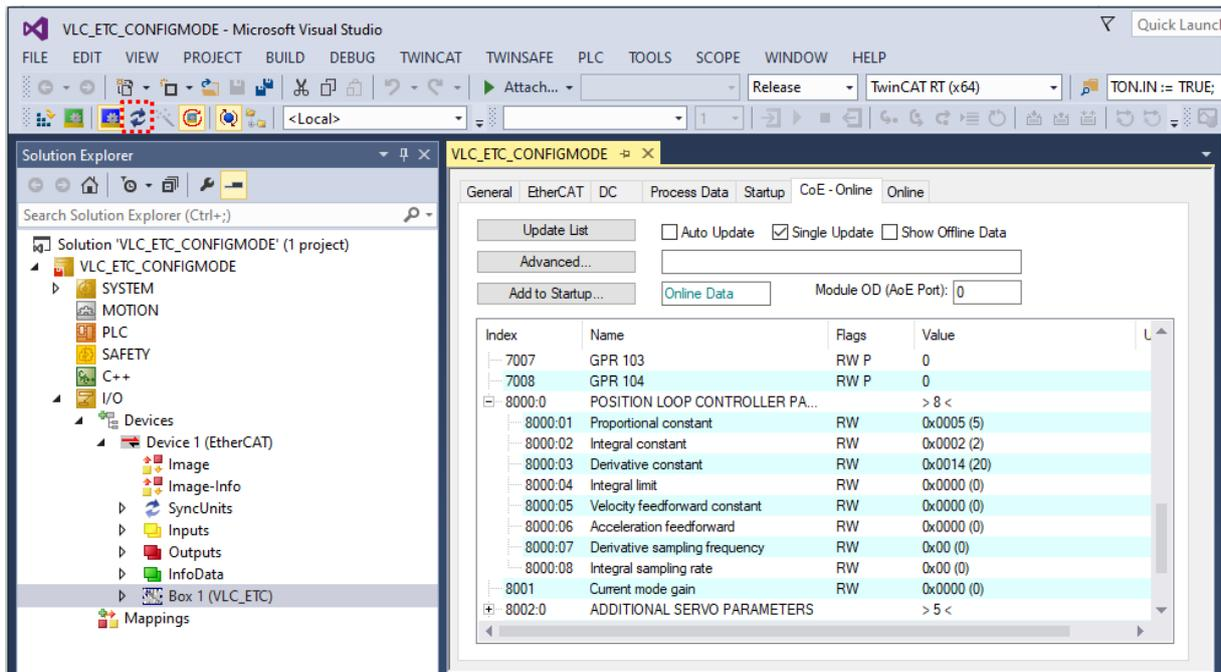

Figure 3.2. Acyclic servo objects list.
- Click the icon in the dashed rectangle shown In Figure 3.2 to reload EtherCAT devices and to activate the free-run state of VLC-ETC. Once this is done, the green LED next to the EtherCAT port should stay on.